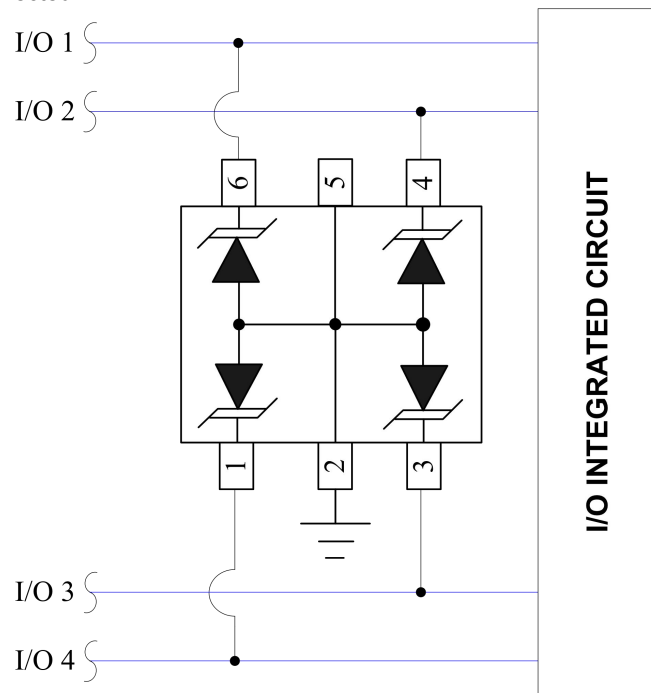

Figure 7 Unidirectional Configuration Common-Mode I/O Port Protections
The DWxxMS-S Series provides up to four (4) lines of protection in a common-mode configuration as depicted in Figure 7. Circuit connectivity is as follows: